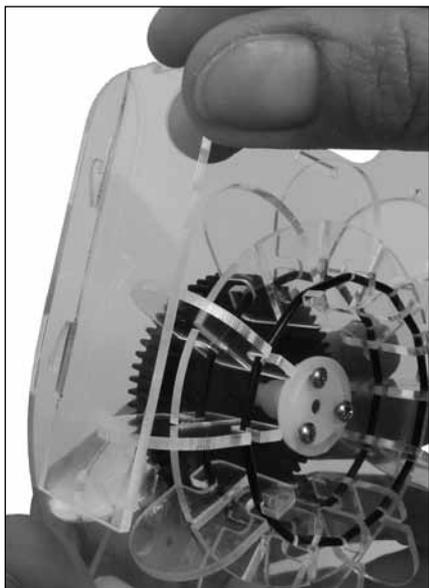
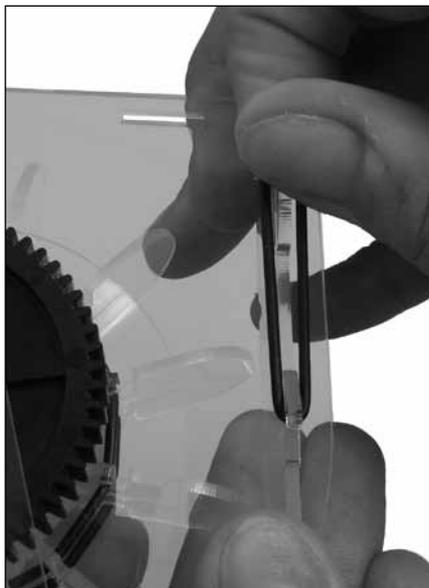

Figure 13a
Figure 13b
1. Find the two rectangular acrylic parts labeled C and D. Part D hooks into Part A on the left side (when holding it so the motor is at the bottom and the notch is on the top right side) (Figure 13a on the next page). Make sure the narrow end with the notch is facing up. On the back where the small hooks come through, stretch a small O-ring over the two hooks to fasten Part D to Part A (Figure 13b on the next page).